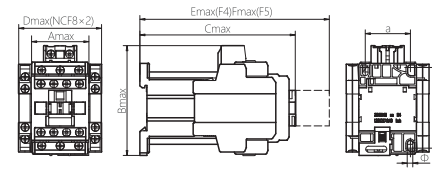

Figure 3 Outline and installation dimensions of NC8-09~38 series AC contactors
3.3 See Figure 3 and Table 6 for outline and installation dimensions of NC8-09~38 series AC contactors.